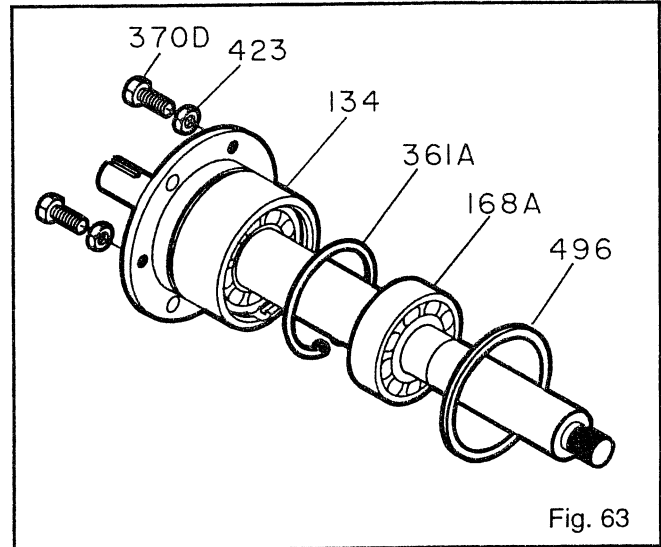

Fig. 63
3. Remove jack screws (370D) with nuts (423) (Fig. 63).
4. Remove bearing housing O-ring (496).